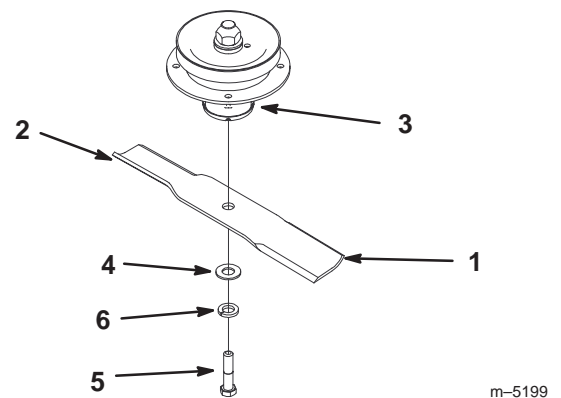
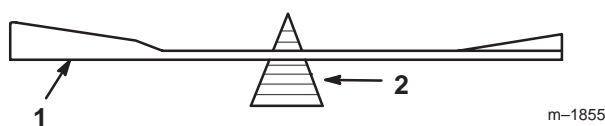

Figure 47
Figure 49
1. Hold the blade end using a rag or thickly-padded glove. Remove the blade bolt, washer, lock washer and blade from the spindle shaft (Fig. 47).
2. Check the balance of the blade by putting it on a blade balancer (Fig. 49). If the blade stays in a horizontal position, the blade is balanced and can be used. If the blade is not balanced, file some metal off the end of the sail area only (Fig. 47). Repeat this procedure until the blade is balanced.
1. Install the blade onto the spindle shaft (Fig. 47).
Important The sail part of the blade must be pointing upward, toward the inside of the mower to ensure proper cutting (Fig. 47).
2. Install the flat washer, lock washer and blade bolt (Fig. 47). Torque the blade bolt to 85–110 ft-lb (115–140 N•m).